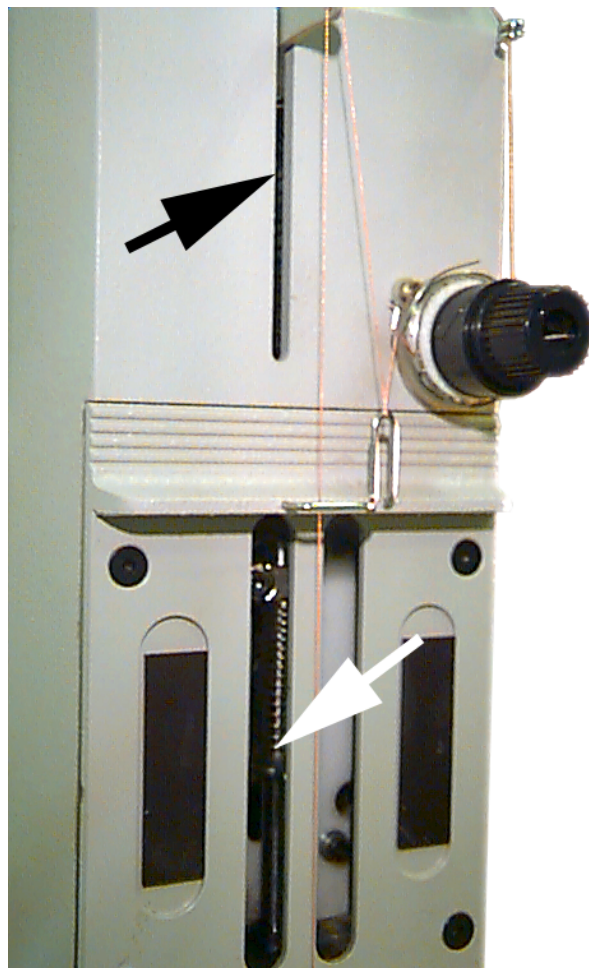

Figure 4-8
1. When **upper/lower needle bar** displays, press . No motion is required. Remove the front cover on the EMT 1 (it will slide to either side, and is attached with magnets). Place 2-3 drops of oil on the needle bar in each location shown in Figure 4-8. The needle bar will be visible through the slot (use a flashlight if necessary). Replace the front cover after lubrication. Press  when done.